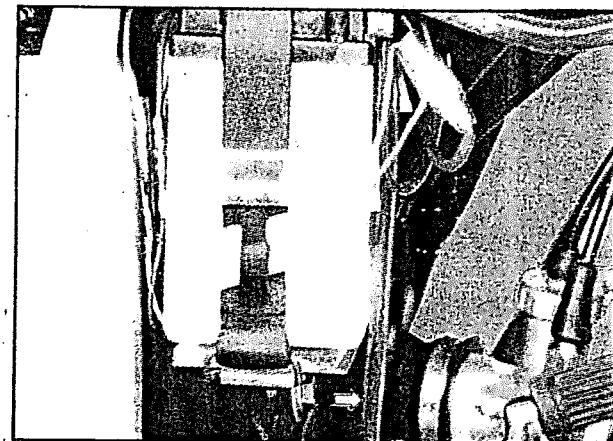

Fig 5.20
- Do not bend, obstruct or change the routing of the air vent tube from the battery. Make certain that the vent tube is firmly attached to the battery vent fitting and that the opposite end is always open. Route the battery vent tube properly. (Fig 5.20)